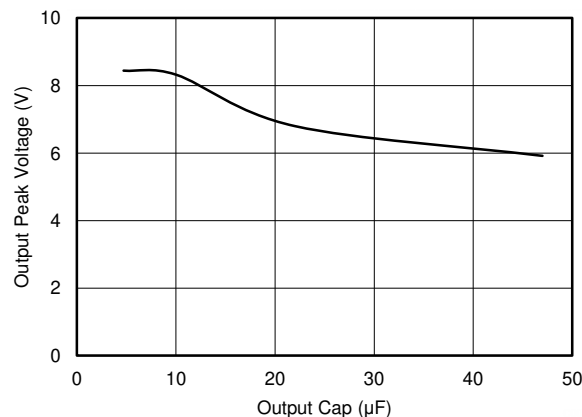

Figure 8-3. V_{OUT} Peak Voltage vs C_{OUT} (V_{IN} Step From 5 V to 15 V with 1-V/μs Ramp Up Rate)
When V_{IN} ramp up exceed 7.6 V, V_{OUT} follows V_{IN} until the TPS25200 turns off the internal MOSFET after $t_{(OVLO_off_delay)}$. Since $t_{(OVLO_off_delay)}$ largely depends on the V_{IN} ramp rate, V_{OUT} sees some peak voltage. Increasing the output capacitance can lower the output peak voltage as shown in Figure 8-3.
- For output capacitance, refer to Figure 8-3, low ESR ceramic cap is recommended.